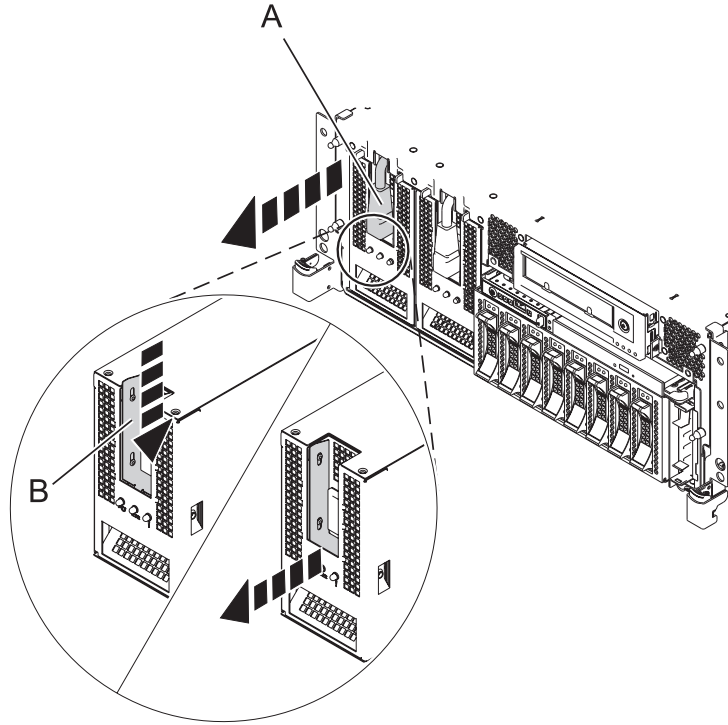

Figure 1. Removing the power supply from a rack-mounted model
7. Disconnect the power cable (A) from the front of the power supply as shown in Figure 1 on page 3.